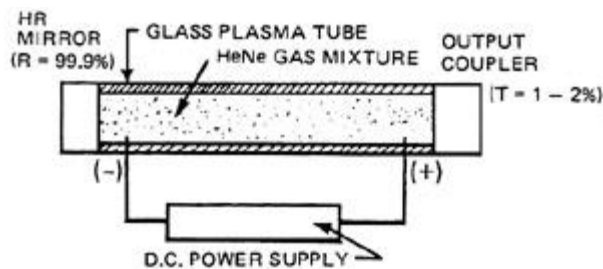

Fig. 14
(46) A large and important family of lasers utilizes a gas or gas mixture as the active medium. Excitation usually is achieved by current flow through the gas. Gas lasers may be operated in either CW or pulsed modes.
(47) One popular type of gas laser contains a mixture of helium (He) and neon (Ne) gases and is illustrated in Figure 14. The gas mixture is contained at a low pressure within a sealed glass tube called the "plasma tube." The excitation mechanism of the HeNe laser is a direct-current discharge through the gas; the current pumps the helium atoms to an excited atomic state. The energy of the excited helium atoms is transferred to neon atoms through collisions, and the neon atoms then undergo a transition to a lower energy state that results in lasing. The feedback mechanism consists of a pair of mirrors sealed to the ends of the plasma tube. One of these mirrors, the output coupler, transmits 1-2 percent of the light to form a continuous (CW) output beam.